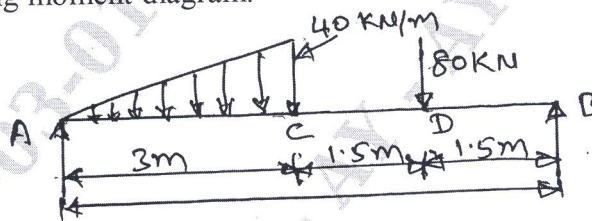

Fig.Q5(b)
- b. A simply supported beam AB of 6 m span is loaded as shown in Fig.Q5(b). Draw the shear force and bending moment diagram.